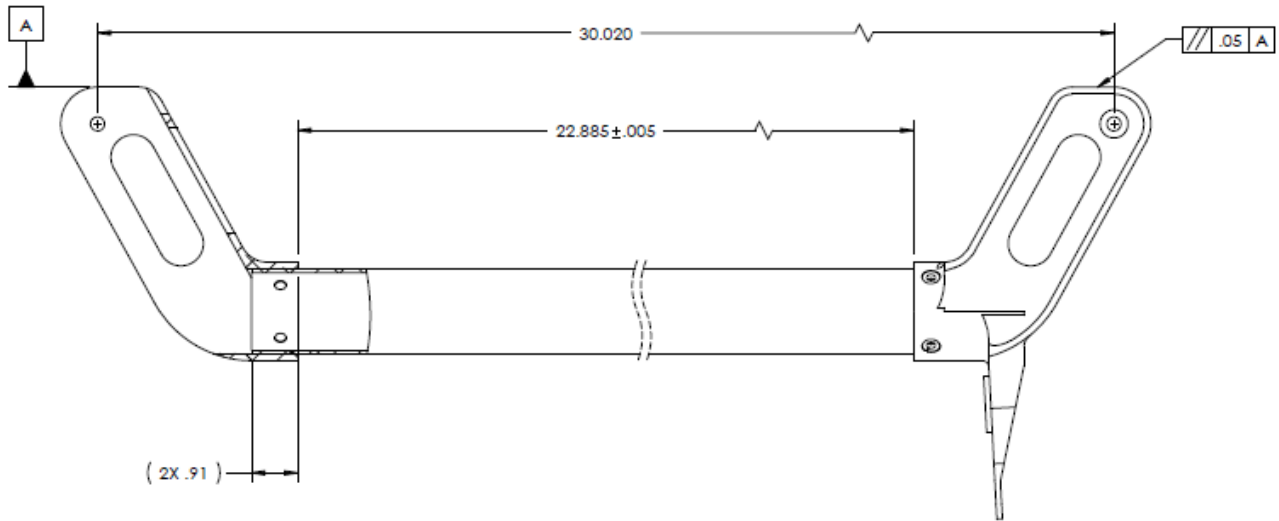

Figure 1 – Torque Tube Placement
- l. Assemble the new torque tube, the forward mast, and the aft mast as shown in Figure 1.
- m. Match drill the torque tube to $\text{Ø}.176\text{''}-.180\text{''}$ using the existing holes in the masts. Ensure the masts are 22.885'' apart, edge to edge as shown in Figure 1.